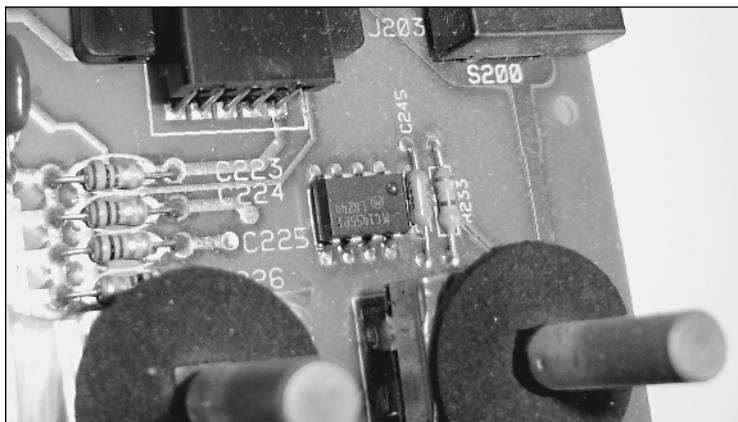

FIGURE 15-2: The small 8-pin IC chip that you may have to rewire.
3. Check the upper right corner of the board. If you see a small *8-pin IC chip*, as shown in Figure 15-2, you'll need to take some additional steps when hacking up the board. (We'll do those steps later in this chapter.) This thing appears in about one out of five Atari 2600s.